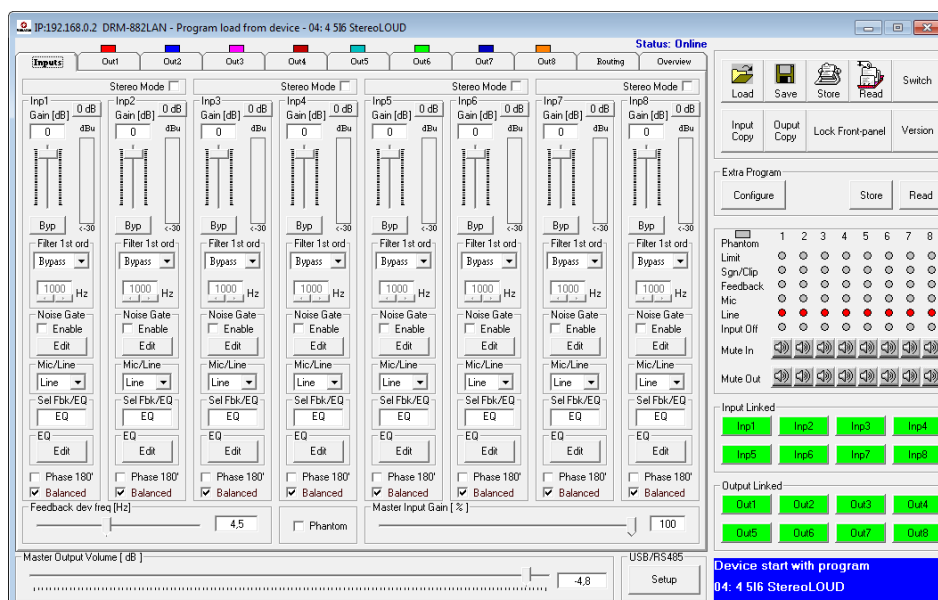

Fig. 19 View of the input channels "Inputs"
- 3) For "RS485", the number of the port used for this interface must be selected under "Select COM". For "USB" (fig. 19), the serial interface that simulates the driver for this software must be selected under "Select COM". Check the settings of the operating system for the appropriate COM interface or use the button "Search" to have it determined automatically.
The signals of the inputs may already be processed before they are actually split to the outputs. While being processed, the signals take the processing path shown in figure 5. To configure the inputs, select the view "Inputs" (fig. 19) which provides a clearly arranged overview of the most important parameters of all inputs.
Use the list field "Mic/Line" (fig. 19) to define if the signal source provides a microphone level (Mic) or a line level (Line). On the right-hand side, under "Input Linked", the corresponding field turns yellow (Mic) or green (Line).
If the signal level "Mic" has been selected for an input, the function "FBK" under "Sel Fbk/EQ" may be used (fig. 19) instead of the equalization function. The function "FBK" is an effective algorithm based on a frequency shift for feedback suppression that allows users to adjust higher volumes for speech applications without having any interfering howling sounds.